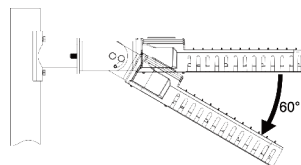

FIG.12
- Loosen and adjust the adjusting bolts to the right angle, and the maximum is 60°(see FIG.12).